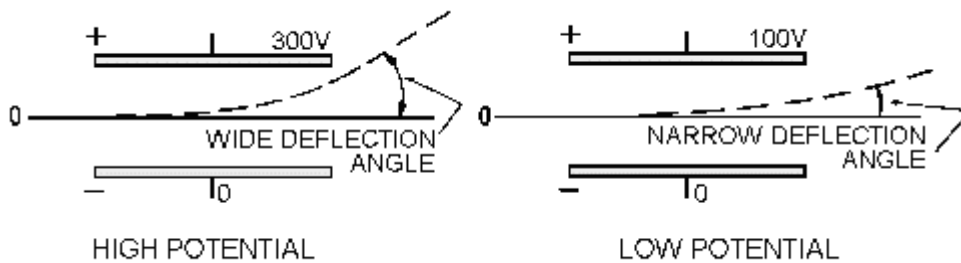

Figure 6-5.—Differences of potential.
**DIFFERENCE OF POTENTIAL.**— The potential on the plates (figure 6-5) can be varied to cause a wider or narrower deflection angle. The greater the potential, the wider the deflection angle.